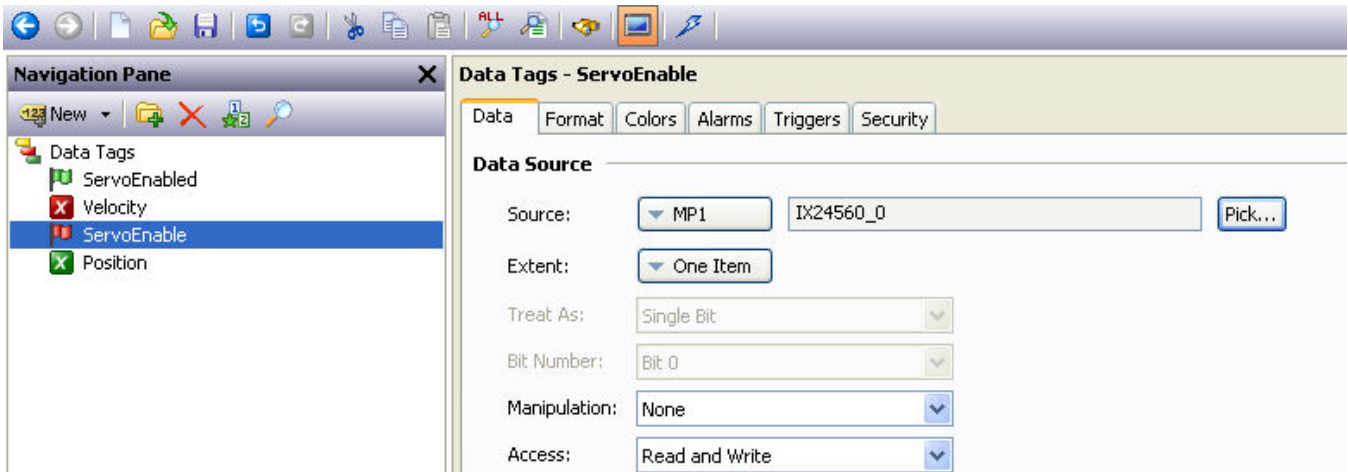
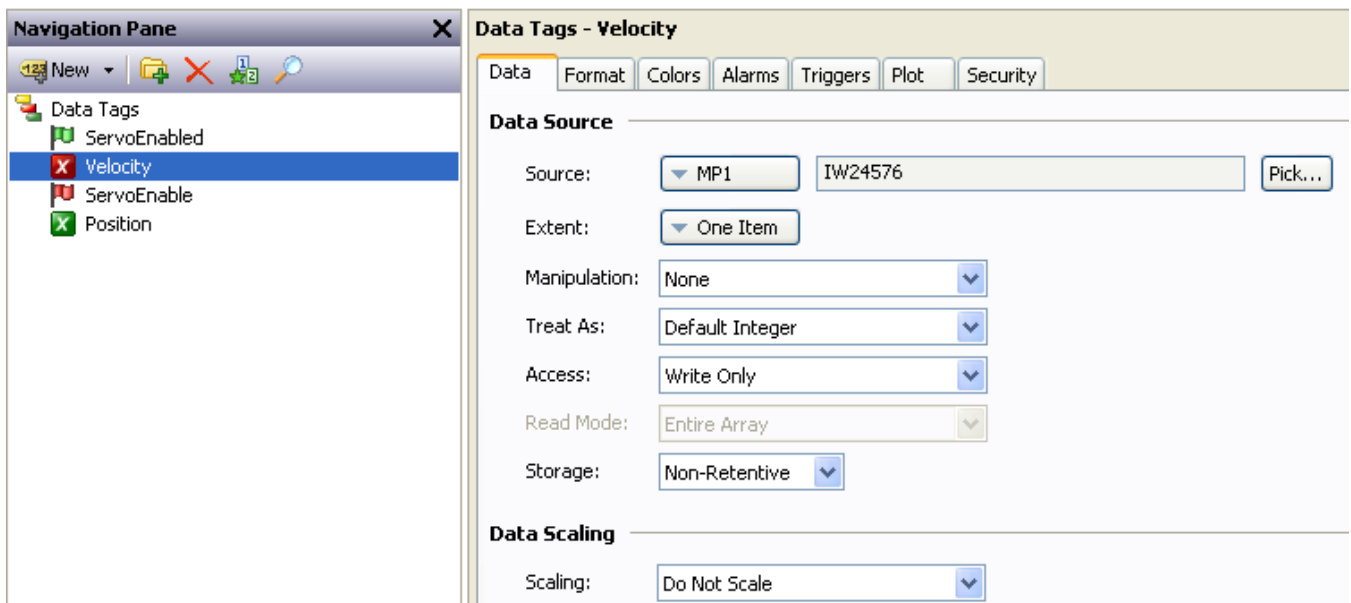
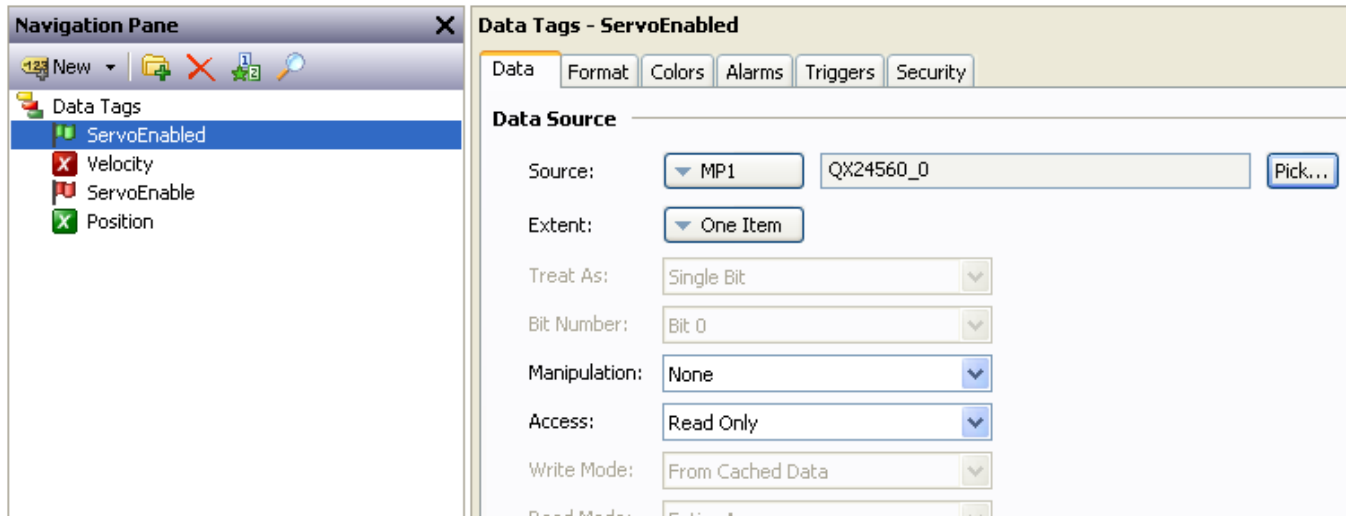
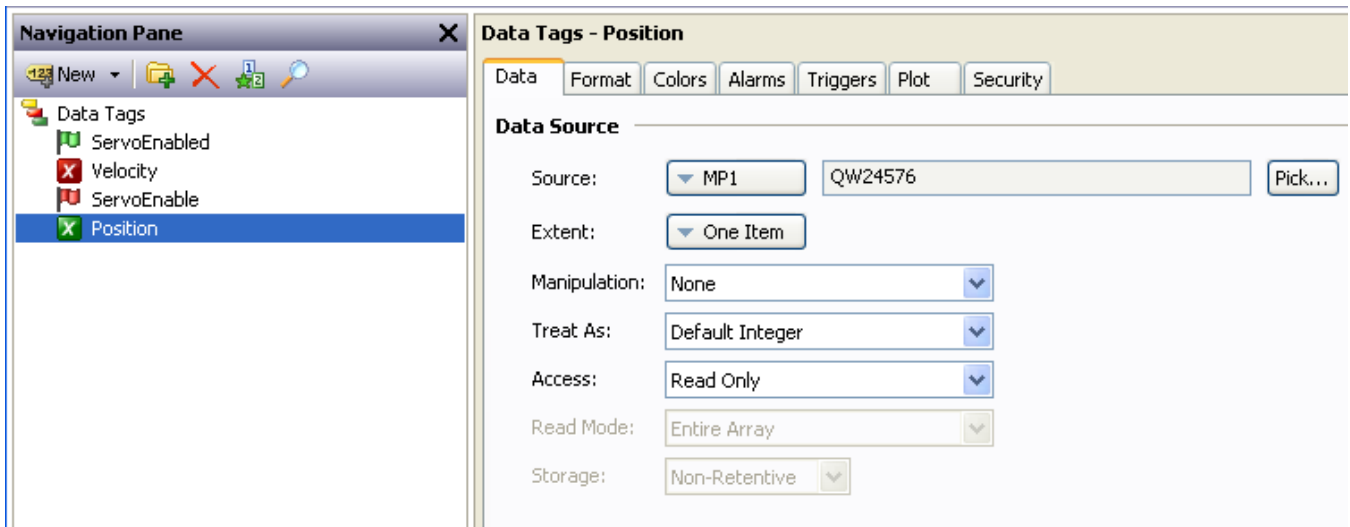

Figure 10: Mapping bit (FC: 5)
Figure 11: Mapping word (FC: 16)
Figure 12: Bit Mapping (FC: 2)
Figure 13: Word mapping (FC: 4)
When creating a new tag, the user can specify the data type of the tag. The user can also map the tag and specify the register that the tag is associated with. For example, the tag 'ServoEnable' is mapped to a location in PLC1, which is the MPiec controller. When clicking the edit button, the Modbus register and data type can be seen as shown in Figure 10. This bit will be mapped to the first bit under Function Code (FC) 5. Access to this tag is set as 'Write Only' as this variable is used for writing to the MPiec controller. The 'Velocity' tag mapping is shown in Figure 11. The Modbus register used for the word is 40001, however, this Modbus location does not have to be specified when the Yaskawa MP2000iec driver is used for communication. Figure 12 illustrates the mapping of the servo status from the controller to the HMI panel. Figure 13 illustrates the MPiec controller outputting a REAL variable displayed at the HMI.